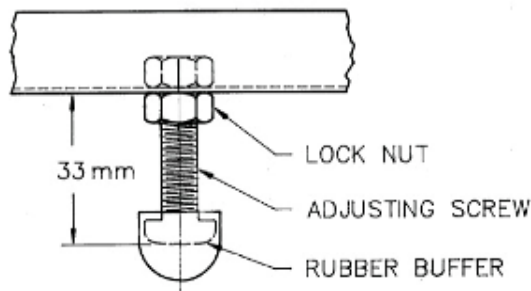

Figure 183 Bonnet Buffer Screw
- g. Adjust the bonnet buffer screws to the correct dimensions (Figure 183) and refit the buffer rubbers.